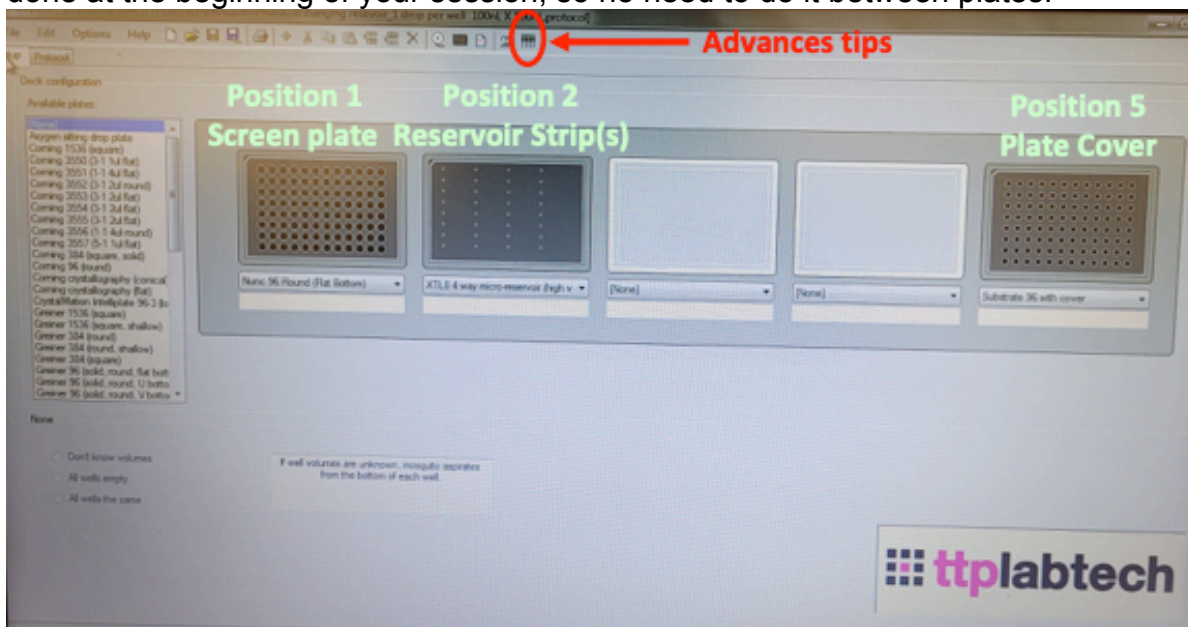
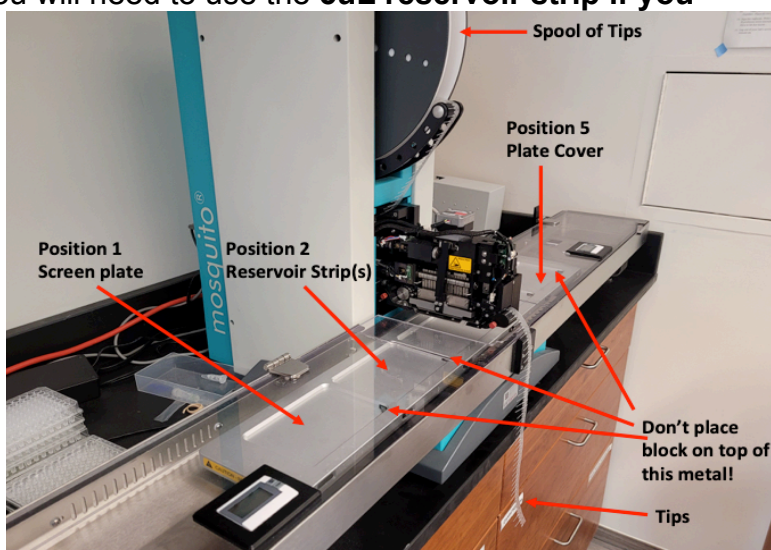
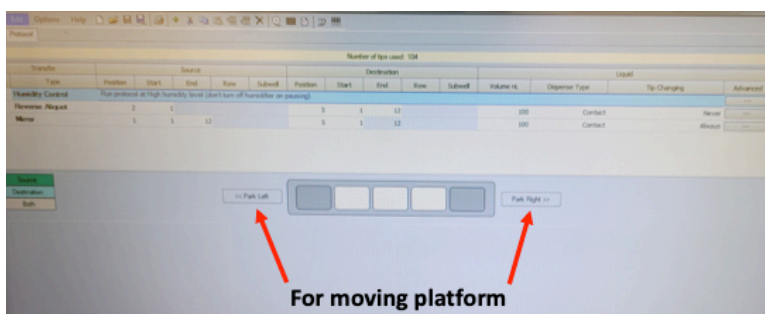

Figure 2. Setup tab options.
Figure 4. Mosquito Deck and Parts
Figure 5. Protocol Tab Options
4. Advance the tips twice by clicking the tips icon at the top of the screen, circled in red in Figure 2. It's normal for the rest set of tips that exit the instrument head to be bent (this is why they are pushed out prior to the start of your experiment). This only needs to be done at the beginning of your session, so no need to do it between plates.
- Place your plates and blocks on the deck in the positions shown in Figure 4, and illustrated in Figure 2. If you need to move the platform, go to the “Protocol” tab on the screen and click “Park Left” or “Park Right” (Figure 5). Please make sure the plates and blocks do **NOT sit on top of the metal** on the bottom right corner of each slot!!! If they are, the tips will JAM! If this does happen, abort the run (in the protocol tab) and advance the tips twice, as described in step 4 above, before starting a new run.
13. After you complete your run(s), cut the hanging tips (Figure 4) with the scissors so they are not hanging on the floor, and throw them into the regular trash.